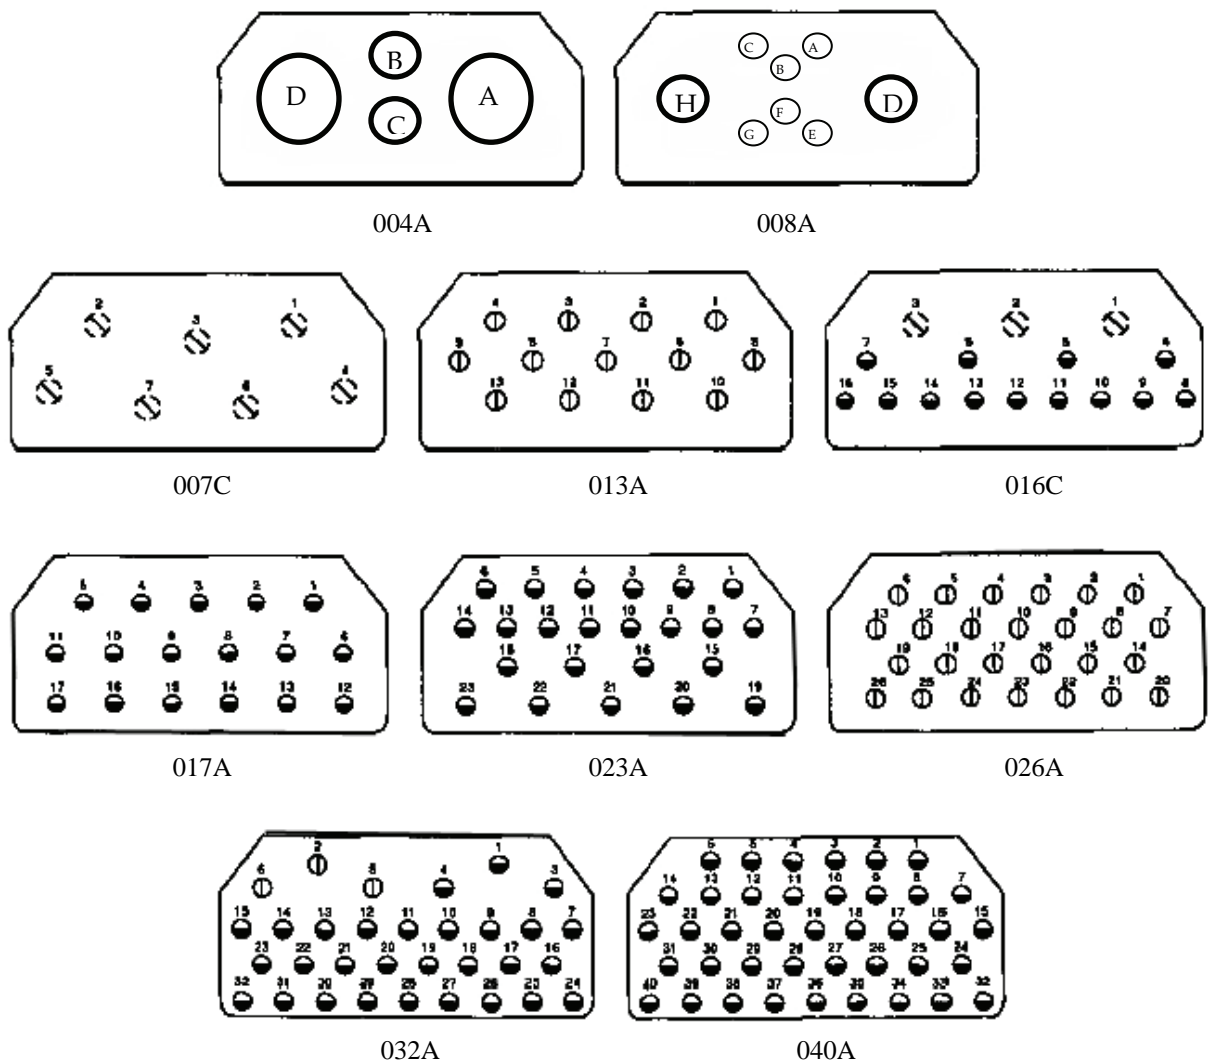

Figure 2. MIL-DTL-21617 Insert Configurations
15. **INSERT CONFIGURATION.** The insert configuration is the manner in which contacts are placed within insert in a standard configuration. All arrangements identified in Table 1 are illustrated (Figure 2).